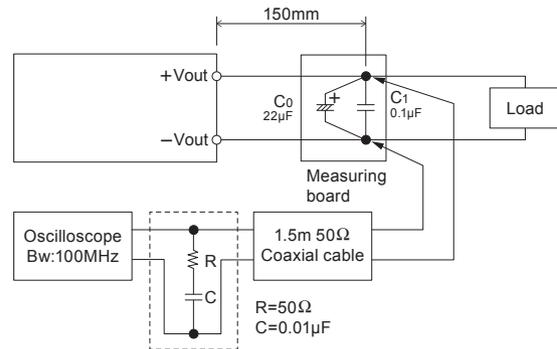

Fig.1.1 Measuring method of Ripple and Ripple Noise
- The specified ripple and ripple noise are measured by the method introduced in Fig.1.1.